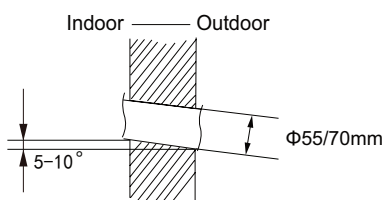

Fig.2
(2) Open a piping hole with the diameter of $\Phi 55(70)\text{mm}$ on the selected outlet pipe position. In order to drain smoothly, slant the piping hole on the wall slightly downward to the outdoor side with the gradient of $5\text{--}10^\circ$. (As show in Fig.2)